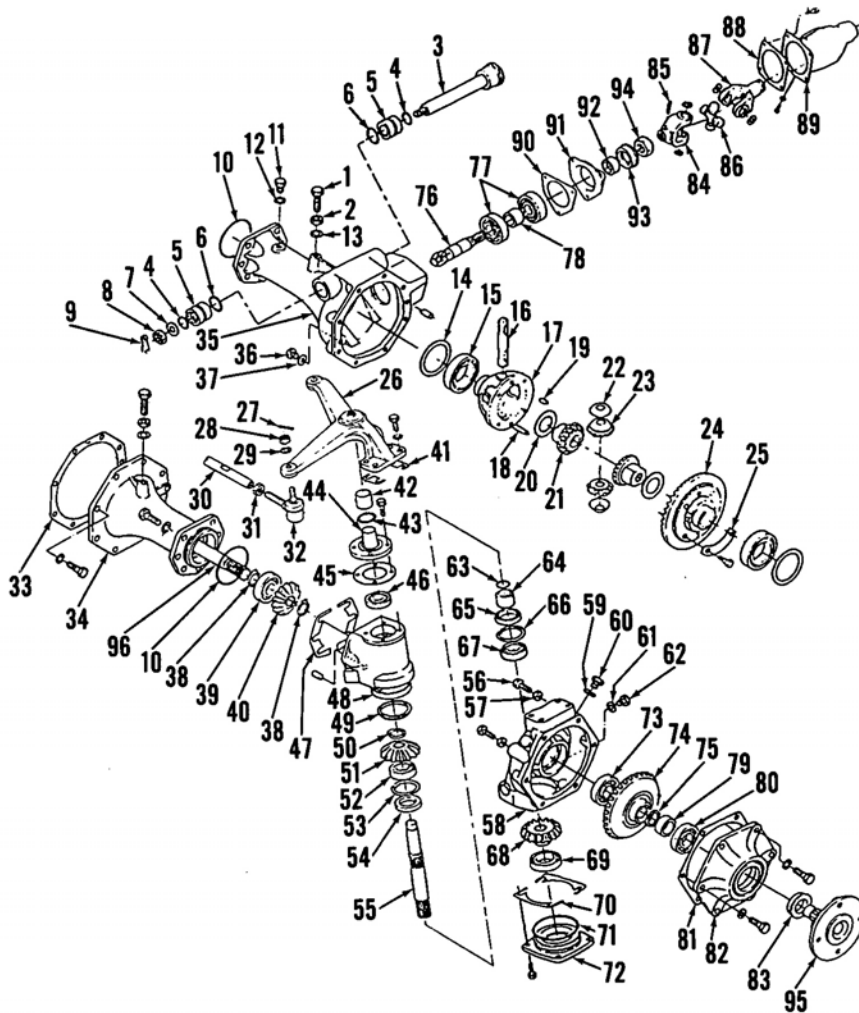
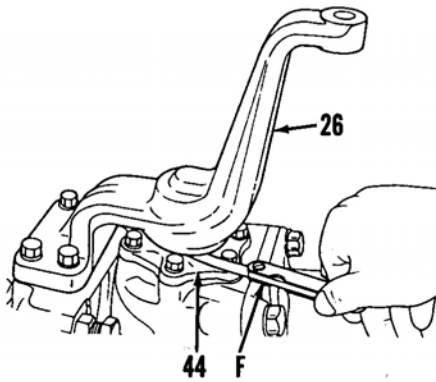
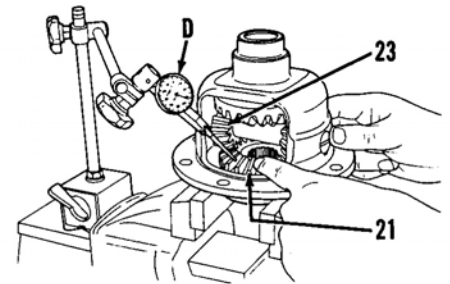
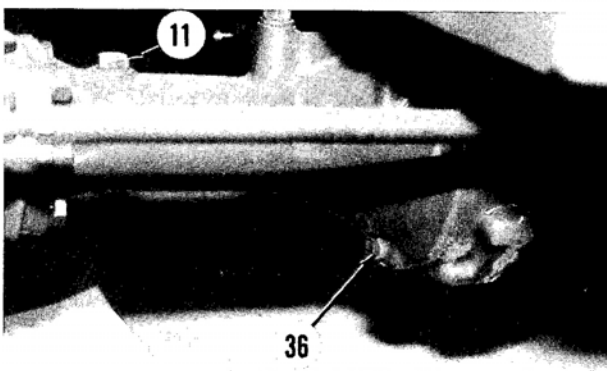

Fig. 5—Exploded view of front-wheel drive axle used on Model B7100HST-D.
Fig. 8 - View showing procedure for measuring clearance between steering arm (26) and support (44) using feeler gage (F). Refer to text.
Fig. 12 - View showing procedure for checking backlash between side gear (21) and spider gear (23) using dial indicator (D). Refer to text.
Fig. 9 - Note location of front-axle drain plug (36) and fill plug (11) used on Model B7100HST-D.
**7. R&R AND OVERHAUL.** Upper support (king pin) and bushing are accessible after removing steering arm (26 - Fig. 5). Outside diameter of support (44) end should be 25.000-25.033 mm (0.9843-0.9856 inch). Bushing (42) inside diameter should be 25.050-25.085 mm (0.9862-0.9876 inch). Clearance between bushing (42) and king pin (44) should be 0.017-0.085 mm (0.0007-0.0033 inch).
Front-wheel drive assembly includes drive shaft, housing, differential, axle shafts and axle hub assembly. Front-wheel drive power is supplied through transmission assembly and controlled by manually engaging or disengaging FWD select lever. Camber angle, caster angle and king pin inclination are non-adjustable. Rolling angle adjuster screw (1–Fig. 5) should be adjusted to a height of 25 mm (0.98 inch) measured from axle case (35) to top of screw head. Front wheel steering angle adjuster screw (56) (front and rear) should be adjusted to a length of 22 mm (0.86 inch) measured from outer drive housing (58) to top of screw head.
allow lubricant to drain into a suitable container. Detach tie rod end (32—Fig. 5) from steering arm (26). Remove cap screws securing gearcase (48) to axle case (34 or 35). Place a suitable drain pan under end of axle case, then lift complete outer drive assembly from axle case and place on a suitable work bench to complete disassembly. Note shims (47) located between axle case and gear-
gear (68) and bearing (69). Note shims (70). Using a suitable mallet, tap shaft (55) from bottom side to separate outer drive housing (58) from gearcase (48). Remove cap screws securing outer cover (82) to outer drive housing (58), then withdraw outer cover (82) assembly. Complete disassembly of components with reference to Fig. 5.
Tighten cap screws securing outer cover (82—Fig. 5) to outer drive housing (58) to 48-56 N·m (35-41 ft.-lbs.) torque. Tighten cap screws securing support cover (72) to outer drive housing (58) to 24-27 N·m (17-20 ft.-lbs.) torque. Tighten cap screws securing support (44) to gearcase (48) to 24-27 N·m (17-20 ft.-lbs.) torque. Tighten cap screws securing gearcase (48) to axle case (34 or 35) to 77-90 N·m (57-67 ft.-lbs.) torque.
Backlash between gears (40 and 51) and (68 and 74) should be 0.10-0.30 mm (0.004-0.012 inch). Adjustment shims (47 or 70) are available in thicknesses of 0.2, 0.3 and 0.5 mm (0.008, 0.012 and 0.020 inch). Clearance between steering arm (26) and support (44) should be 0-0.2 mm (0-0.008 inch) measured as shown in Fig. 8. Adjustment shims (41 - Fig. 5) are available in thicknesses of 0.2, 0.3 and 0.5 mm (0.008, 0.012 and 0.020 inch).
**14. R&R AND OVERHAUL.** Remove outer cover, outer drive housing, gearcase and drive components as outlined in paragraph 13. Remove drain plug (36 - Fig. 9) and allow lubricant to drain into a suitable container. Remove cap screws securing left axle case (34 - Fig. 5), then separate axle cases (34 ar. 35). Use care not to allow differential assembly to fall free when axle cases are separated. Lift differential and bevel ring gear assembly (14 through 25) from
To separate bevel pinion assembly, place bevel pinion (76) in a suitable holding fixture, then remove nut (94) from pinion shaft. Complete disassembly with reference to Fig. 5.
Renew all components as needed. Bevel ring gear (24 - Fig. 5) and bevel pinion (76) must be renewed as a matched set.
Reassembly is reverse order of disassembly. Lubricate components with a light film of SAE 80 gear lube prior to installation. Tighten cap screws securing bevel ring gear (24 - Fig. 5) to differential case (17) to 29-34 N·m (22-25 ft.-lbs.), then bend tabs of lock plate (25) over to secure screws. Tighten
Shim (20 - Fig. 5) is used to adjust backlash between side gear (21) and spider gear (23). Mount differential assembly in a suitable holding fixture and measure backlash as shown in Fig. 12. Recommended backlash is 0.20-0.25 mm (0.0079-0.0098 inch). Shims (20 - Fig. 5) are available in thicknesses of 0.8, 1.0 and 1.2 mm (0.031, 0.039 and 0.047 inch). Shims (14) are used to adjust backlash between bevel pinion gear. Recommended backlash is 0.1-0.2 mm (0.004-0.008 inch). Shims (14) are available in thicknesses of 0.2, 0.3 and 0.5 mm (0.008, 0.012 and 0.020 inch). Recommended pinion shaft end play is zero. Shims are available to adjust mesh position. After adjustment, add shims under retainer plate until zero end play is attained.
Reassemble outer cover, outer drive housing, gearcase and drive components as outlined in paragraph 13. Remove plug (11 - Fig. 9) and refill differential case with 1.5 liters (1.6 U.S. quarts) of SAE 80 gear lube. Reinstall and tighten plug (11).